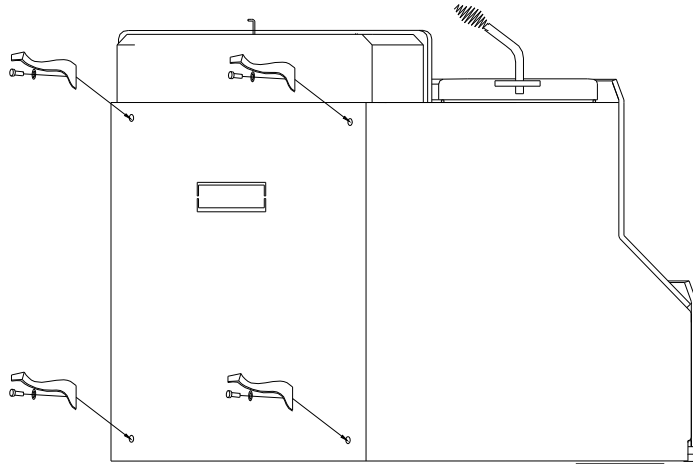

Figure 1.
5. Then obtain four legs, attach the legs to holes in bottom of unit with bolts and washers supplied with the leg kit. (See Figure 1).